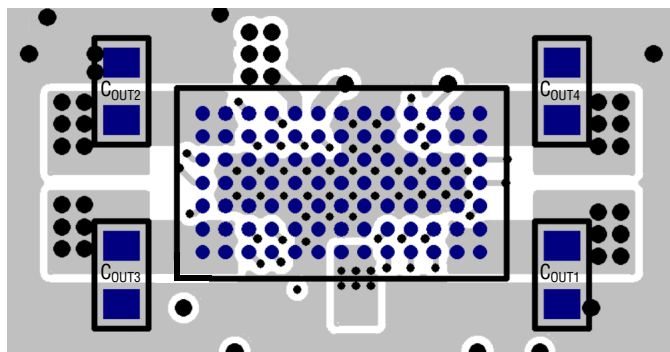

Figure 3. Layout Showing Suggested External Components, GND Plane and Vias
Most of the headaches associated with PCB layout have been alleviated or even eliminated by the high level of integration of the LTM8051. The LTM8051 is nevertheless a switching power supply, and care must be taken to minimize EMI and ensure proper operation. Even with the high level of integration, you may fail to achieve specified operation with a haphazard or poor layout. See Figure 3 for a suggested layout. Ensure that the grounding and heat sinking are acceptable.
6. Use vias to connect the GND copper area to the board's internal ground planes. Liberally distribute these GND vias to provide both a good ground connection and thermal path to the internal planes of the printed circuit board. Pay attention to the location and density of the thermal vias in Figure 3. The LTM8051 can benefit from the heat sinking afforded by vias that connect to internal GND planes at these locations, due to their proximity to internal power handling components. The optimum number of thermal vias depends upon the printed circuit board design. For example, a board might use very small via holes. It should employ more thermal vias than a board that uses larger holes.